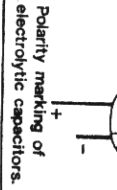

FIG. 4.
- 6) Referring to FIG. 4, fit Diode D200. Trim leads to length and solder.
- 11) Referring Fig. 4, fit TR1 through TR7 and TR200. Trim leads to length and solder.
- 6) Referring to FIG 4, fit Diodes D4, D5 and D100 in positions shown. Trim leads to length and solder. Ensure polarity is observed.